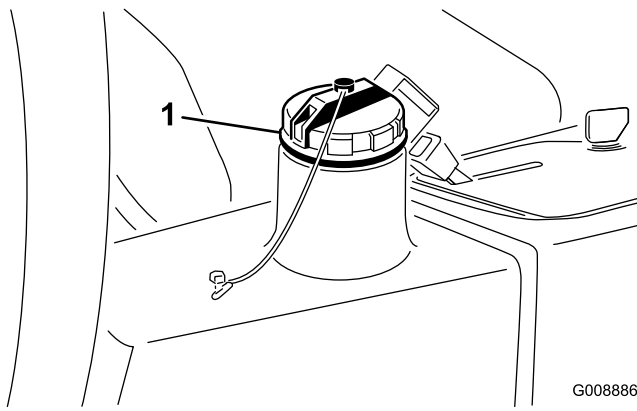

Figure 77
4. Fill the reservoir (Figure 77) with approximately 13.2 liters (3.5 US gallons) of hydraulic fluid; refer to Checking the Hydraulic System \(page 29\).